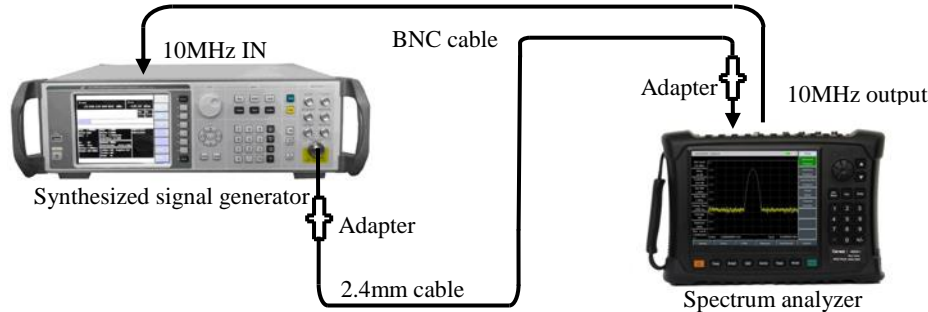

Fig. 12-3 Setting for Bandwidth Accuracy Test
1) Connect the test instrument as shown in Fig. 12-3. The spectrum analyzer will provide the frequency reference for the synthesized signal generator.